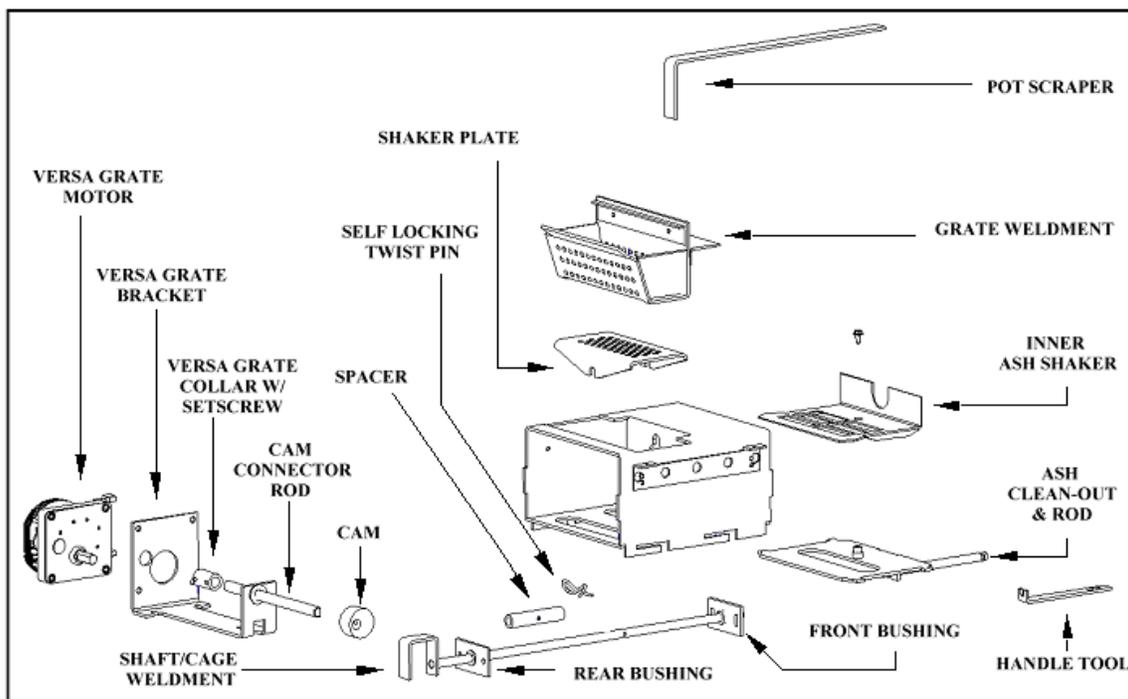
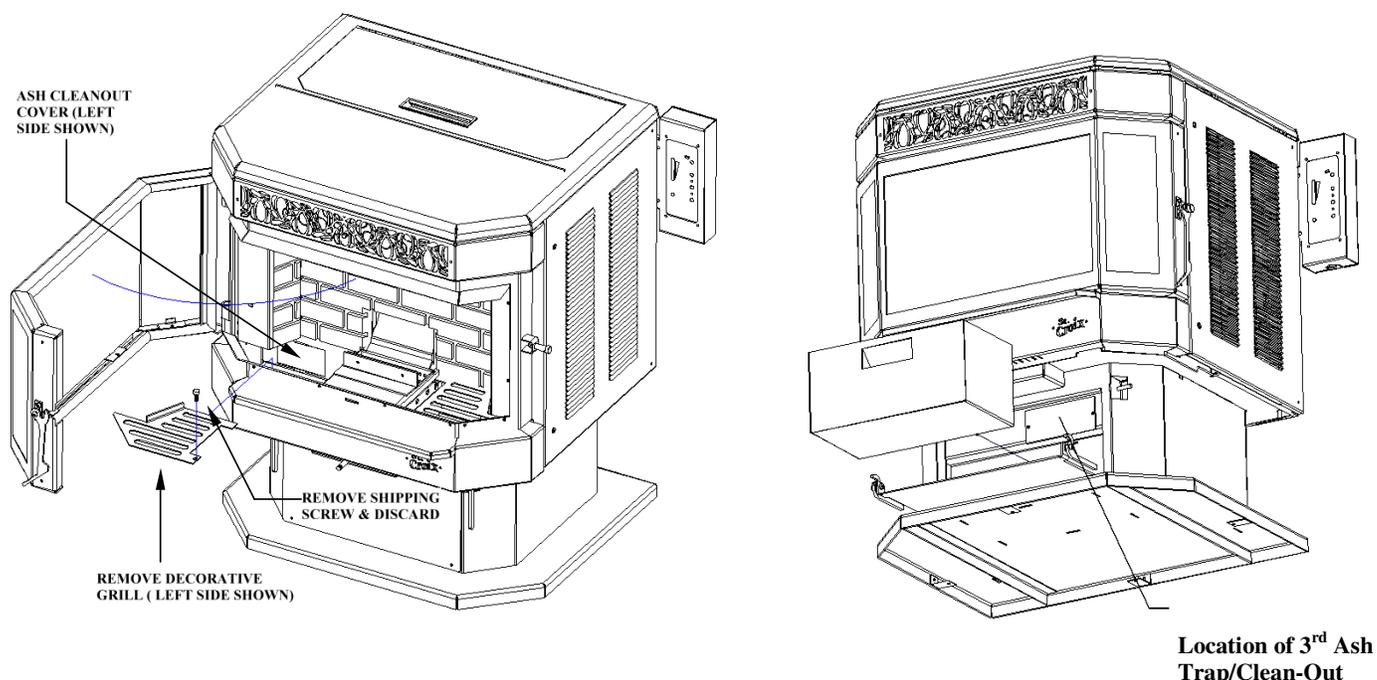

Figure 6
Figure 8
The Versa Grate System (see Figure 6 below). The benefit of this feature is that the stove can operate for longer periods of time, with most
First, let's become familiar with the burn system in a St. Croix Pellet stove. Remember, cleaning frequency may change dramatically from one fuel to another. Pellets with high ash content or that have increased amounts of impurities or high moisture content. Every St. Croix Pellet stove model will have the same system as shown in figure 6 below. There is a 2-piece burnpot. The top Part is called the **"Grate Weldment"**. This sits on top of the **"Shaker Plate"**. This in turn sits on top of the **"Shaft/Cage Weldment"** and is held in place with the **"Spacer"** & **"Self Locking Twist pin"**. The Shaft/Cage weldment is moved towards the front of the stove and then towards the back of the stove by the **"Cam"** that is connected to the **"Versa Grate Motor"**. This motion is constant, while the stove is in operation. The only parts that may need to be removed for cleaning purposes during the Daily or Periodic Maintenance are the **"Grate weldment"** and the **"Shaker Plate"**. This is to check the holes in the burnpot system to see if they are plugged.
2. Remove ash buildup under the grate bottom daily or as frequently as needed. Clean the ashes out from under the burn pot by pulling the Ash Cleanout Rod in and out several times (see Fig. 6) Use the Rod Pull Tool with the Ash Cleanout Rod. This tool is hanging on a screw on the back of the stove; this provides a convenient location to keep the tool in reach and prevent it from getting lost.
3. Check ash pan (See Fig. 6) to determine emptying frequency needed. NOTE: Do not use a vacuum cleaner for this purpose. Hot coals may cause your vacuum filter to catch fire. Place ashes in a metal container with a tight fitting lid. The closed container of ashes should be placed on a noncombustible floor or on the ground, well away from all combustible materials, pending final disposal. If the ashes are disposed of by burial in soil or otherwise locally dispersed, they should be retained in the closed container for at least two days until all cinders have thoroughly cooled.
2. The Afton Bay has 3 Ash Traps/Clean-Outs, 2 of which are located below the rear brick panel. The third is located behind the Ash Pan. Remove covers and clean regularly. (See Figure 8 below) Be sure to clean both sides. Use scraper shown in figures 6 & 7 to scrape ash into ash pan. Use a vacuum (cold stove only) to thoroughly clean these areas.
3. Clean burn grate holes at least weekly. Remove the burn grate and use a small metal object to clean out plugged holes. (See fig. 6 on page 12.)
1. **Spring Shutdown.** After the last burn in the spring, cool the stove. Remove all pellets from the hopper and the auger. Thoroughly clean the burn grate, burn grate box, ash pan and ash traps behind the ash pan. (To locate the ash traps see Figure 8 on page 14)